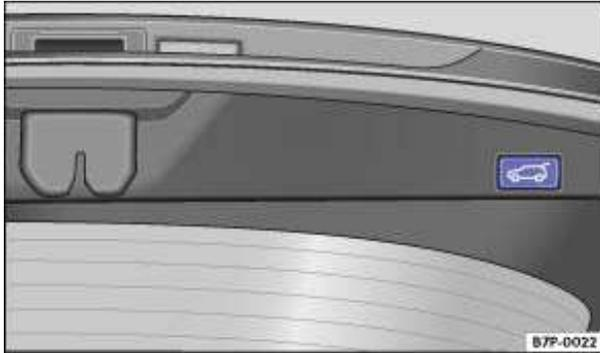

Fig. 31 Button in the open rear hatch.
- **OR:** Press the button in the open rear hatch ⇒ fig. 31 ⇒ .